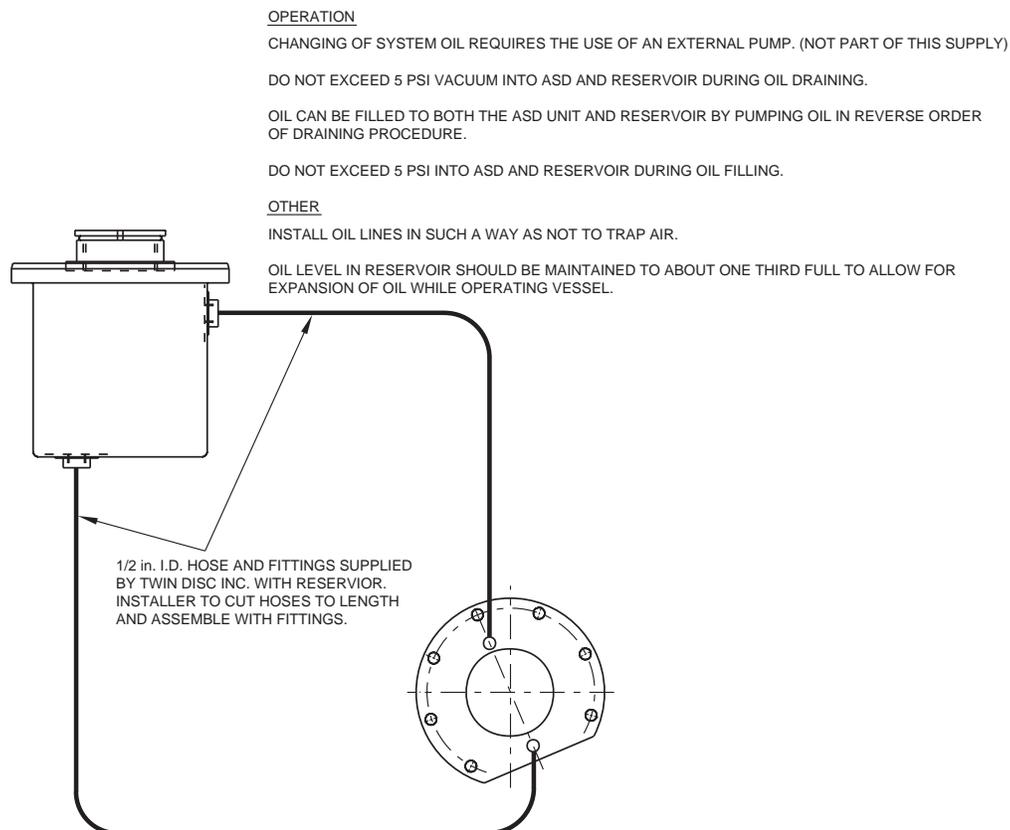

Figure 21. Lubrication System
The Internal Lube Kit supplied by Twin Disc, Incorporated for ASD 12 drives is shown in Figure 21. It includes an oil reservoir, hose, clamps, hose fittings and plugs. The customer provides the necessary support brackets for the reservoir. All components are to be internally clean to prevent oil contamination.
1. Mount reservoir 254 mm (10 in.) or higher above surface drive centerline as shown in Figure 21. Support reservoir on bottom or under flange and secure to the vessel's structure. Connect 1/2 in. hose as shown in Figure 21.